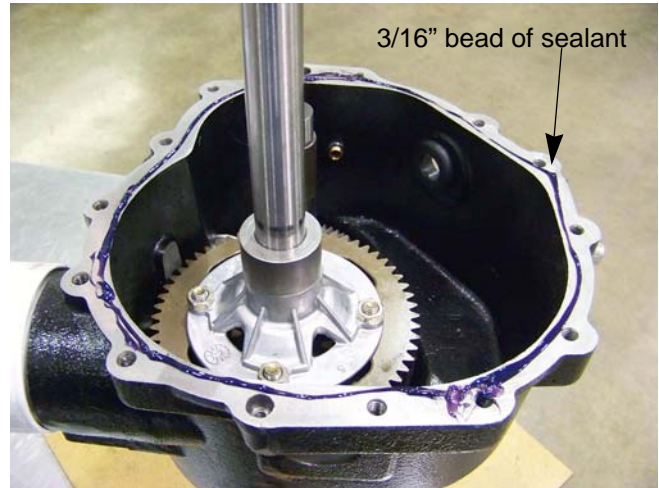

Figure 5.58
20. Place a 3/16" bead of Loctite® Ultra Black or similar sealant around the perimeter of the right housing mating face. See Figure 5.58.